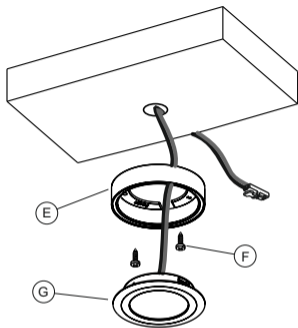

Fig 6
- Secure the plastic bracket (E) to the installation surface with the included screws (F); insert the light (G) into the plastic support, applying light pressure until it is completely fitted as illustrated in figure 6.